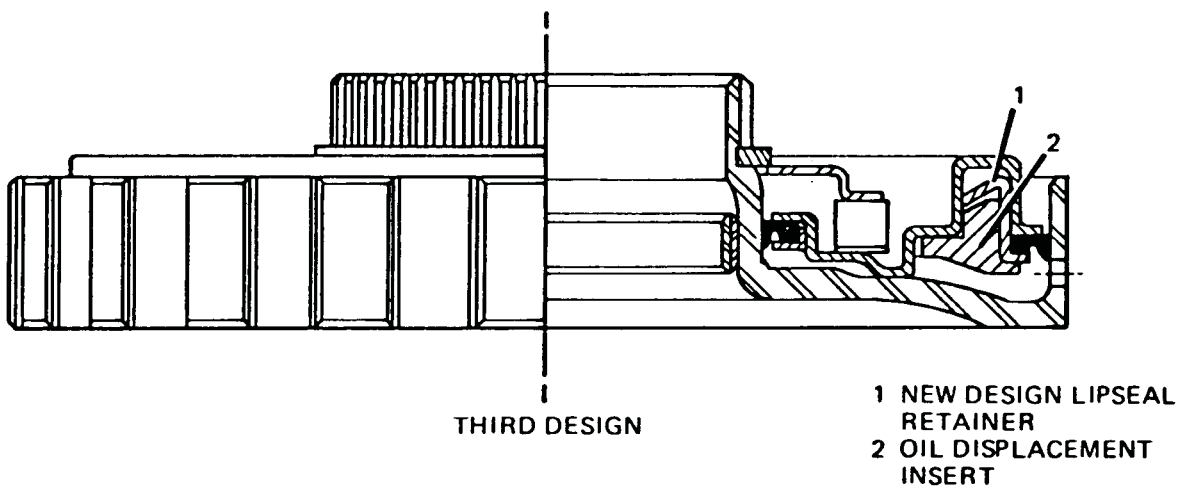

Figure 38
- 1) Low and reverse piston redesigned with a 3rd design lip seal retainer that would not come off, and the addition of an oil displacement insert (See Figure 38). The insert reduces the fill time, and quickens the apply of the low and reverse clutch.